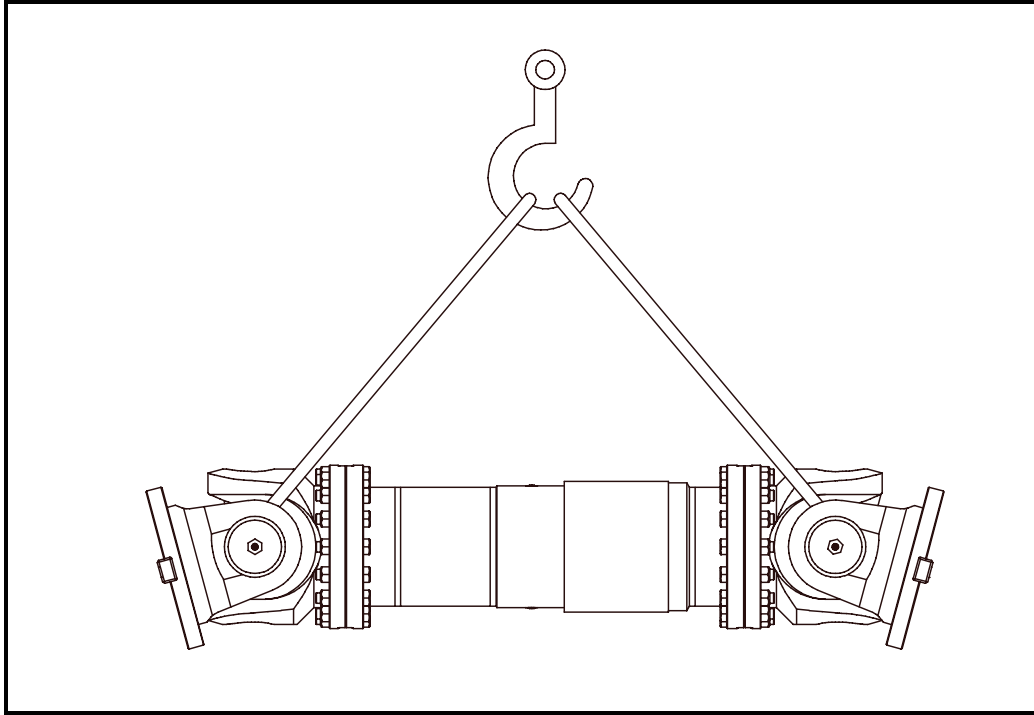
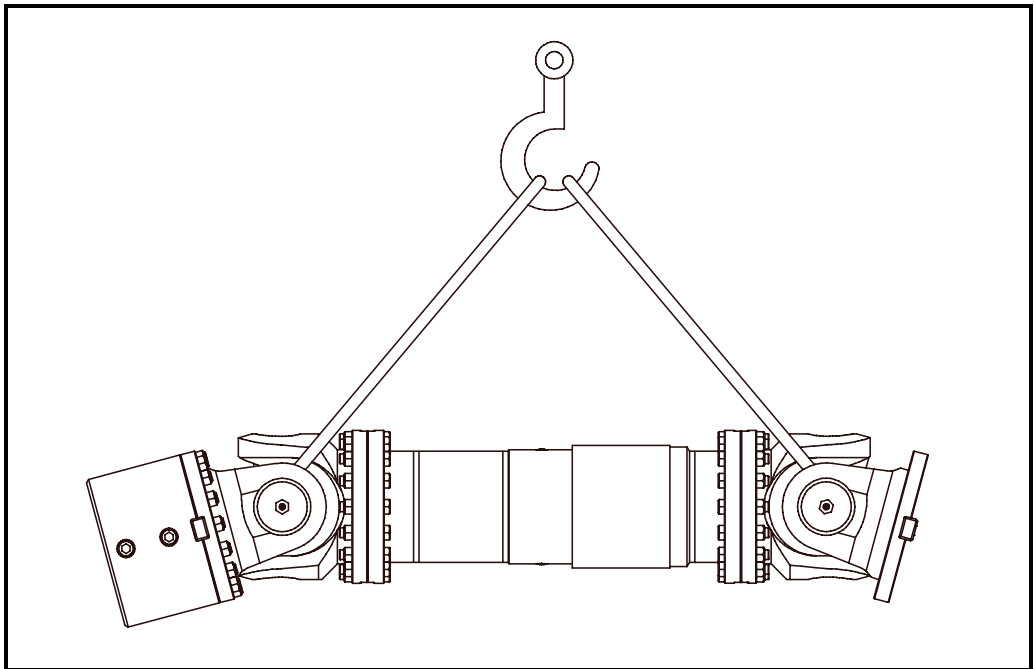

Figure 4.4
Figure 4.5
- 4.6.5 Lift the intermediate shaft assembly with a sling at the inboard yokes as shown in Figure 4.4 or Figure 4.5 if a clearance fit adapter is assembled. This permits the outboard yokes to swivel and will facilitate alignment while mating with the flange adapter(s).
CAUTION: DO NOT PLACE A SLING OR CHAIN AROUND THE INTERMEDIATE SHAFT OR SPLINE COVER WHEN LIFTING OR TRANSPORTING. ALWAYS HANDLE AND TRANSPORT IN A HORIZONTAL POSITION EXCEPT WHEN HANDLING A UNIT DESIGNED FOR VERTICAL APPLICATIONS. SEE FIGURES 4.4 OR 4.5 FOR THE PROPER METHOD TO LIFT THE ASSEMBLY.
- 8.1 If an overhaul is deemed necessary, it is recommended to remove the drive end adapter and driven end adapter. Return the whole intermediate shaft assembly on Types ST and SF per Figures 2.1 through 2.13. For Types FT and FF per Figures 2.14 and 2.19 either the whole intermediate shaft assembly or only the universal joints can be unbolted from the end of the intermediate shaft assembly per customer preference. Support the assembly as shown in Figures 4.4 or 4.5 during disassembly.
CAUTION: DO NOT PLACE A SLING OR CHAIN AROUND THE INTERMEDIATE SHAFT OR SPLINE PROTECTOR WHEN LIFTING OR TRANSPORTING. ALWAYS HANDLE AND TRANSPORT IN A HORIZONTAL POSITION EXCEPT WHEN HANDLING A UNIT DESIGNED FOR VERTICAL APPLICATIONS. SEE FIGURES 4.4 AND 4.5 FOR THE PROPER METHOD TO LIFT THE ASSEMBLY.